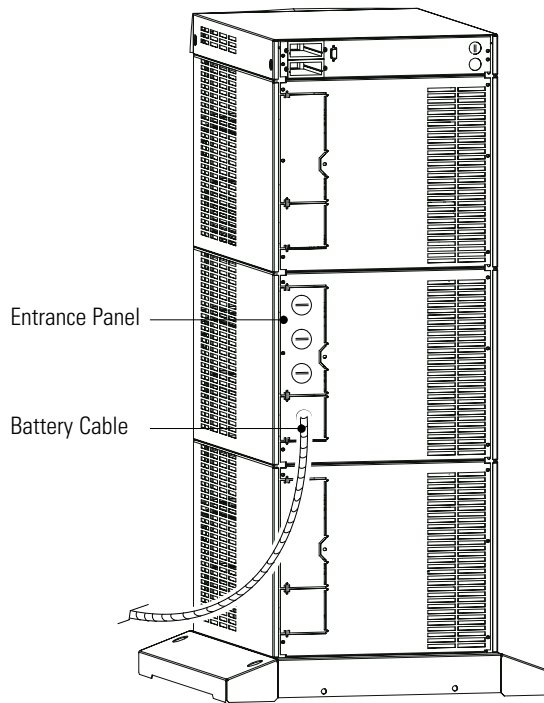

Figure 13. UPS Power Entrance Panel
2. Locate the 3-slot section in the UPS cabinet that contains the power entrance panel. Unscrew and remove the rear panel of this section (see Figure 13).